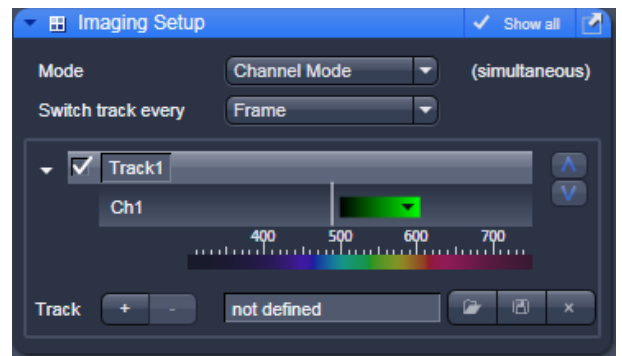
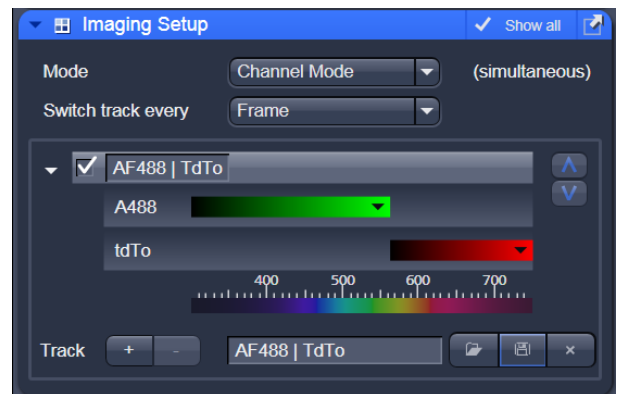
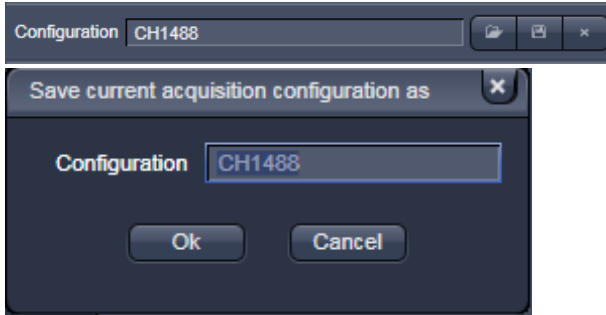

Fig. 15 Imaging Setup tool for a single track (LSM)
Fig. 16 Detection Bands & Laser Lines display
Fig. 17 Track Configurations window
- Select **Channel Mode** if necessary (Fig. 15).
- In the **Imaging Setup** tool the Detection Bands & Laser Lines are displayed in a spectral panel (Fig. 16) to visualize the activated laser lines for excitation (vertical lines) and activated detection channels (colored horizontal bars).
- For storing a new configuration click  and enter a desired name in the first line of the list box (Fig. 17), then click **Ok** to store the configuration.
The following functions are available in the **List of Tracks** panel in the **Imaging Setup Tool** (Fig. 15, Fig. 16 and Fig. 17).